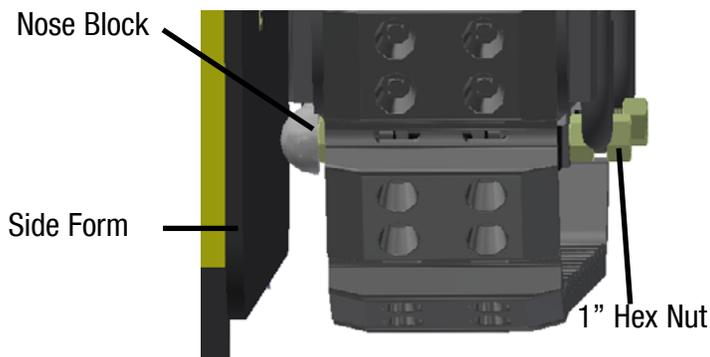

Figure 2.1: Nose Block for Side Forms
- If necessary, adjust the nose blocks on the inner side of the tracks, this is to ensure that the material stays contained within the side forms. See Figure 2.1, and “Nose Block & Paving Pan Adjustments” on page 64.